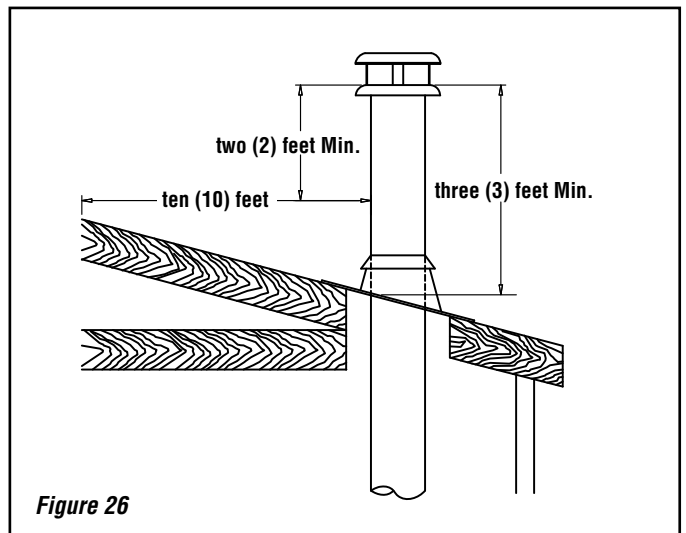

Figure 26
6. All chimney installations must include at least one support in order to be able to take any lateral load. The maximum chimney length that can be supported by the fireplace is nine (9) feet (2.75 m) for Secure Temp S2100+* / Nova Temp HT6000+* / Secure Temp GX* and 26 feet (8m) for ACBI* (air cooled) chimney. In altitude, add 18” (450 mm) to the chimney for every 2,000 feet (600 m) above sea level.
7. The chimney must extend at least three (3) feet (915 mm) above its point of contact with the roof and at least two (2) feet (610 mm) higher than any wall, roof or building within ten (10) feet (3 m) of it (**Figure 26**).
8. If the chimney extends higher than five (5) feet (1,500 mm) above its point of contact with the roof, it must be secured using a roof brace.